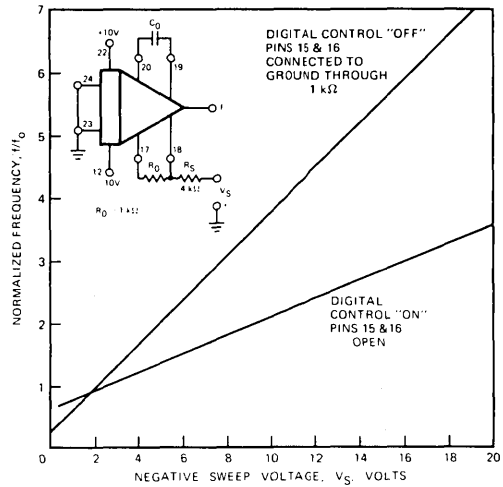

Figure 14. Voltage Sweep Characteristics
3. A sweep voltage, applied through a limiting resistor R_S is used for frequency sweeping, on-off keying, and synchronization of the VCO to a sync pulse. (see Figure 14)